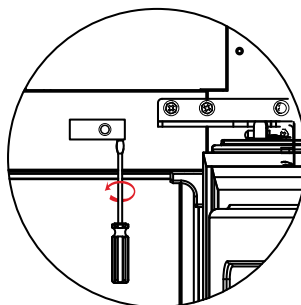

Fig 8-26
4. Lift up the corner of the switch using appropriate tools. (Fig 8-26)